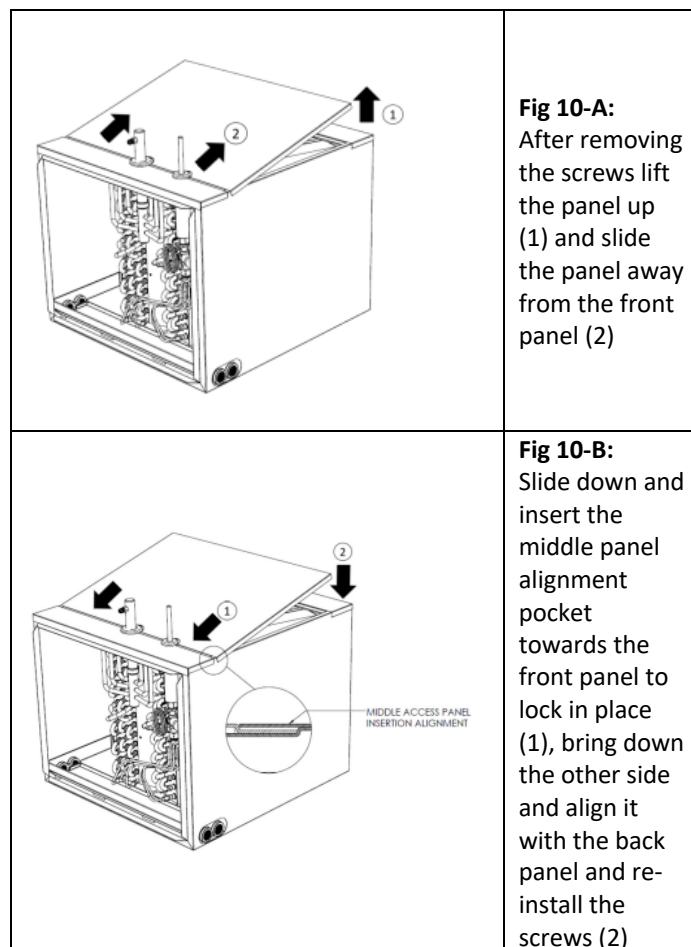

Fig 10-A: After removing the screws lift the panel up (1) and slide the panel away from the front panel (2)
1. Aspen horizontal cased coils are equipped with a three-piece access panel. To access the coil for cleaning and maintenance use the middle access panel. See figure 10-A and 10-B on how to properly remove and install the middle access panel.
Fig 10-B: Slide down and insert the middle panel alignment pocket towards the front panel to lock in place (1), bring down the other side and align it with the back panel and re-install the screws (2)